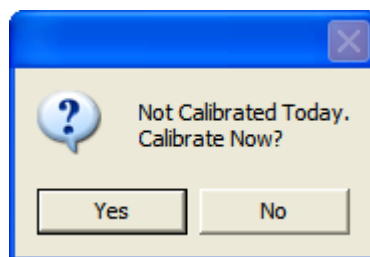
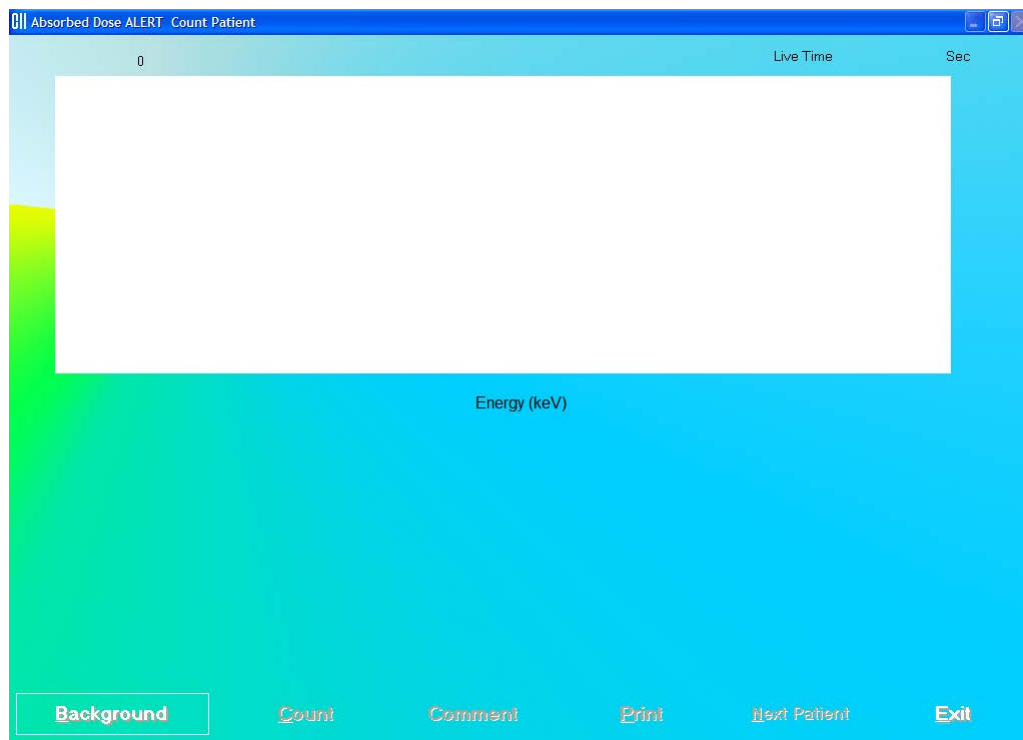

Figure 9-19
Figure 9-20 Count Patient Measurement Screen
12. To measure this patient now, click the  button. Figure 9-20 Count Patient Measurement Screen will appear.
- To measure this patient now, click the **Count** button. Figure 9-20 Count Patient Measurement Screen will appear.
- To begin the measurements, click the button or press *Alt+C*. The screen appears as shown in Figure 9-20 Count Patient Measurement Screen.
Note: *If calibration has not been performed for the current day, you will be prompted with the screen as shown in Figure 9-19. After the calibration is complete, the program will return to the Emergency Screening Count Patient screen shown in Figure 9-20 Count Patient Measurement Screen.*